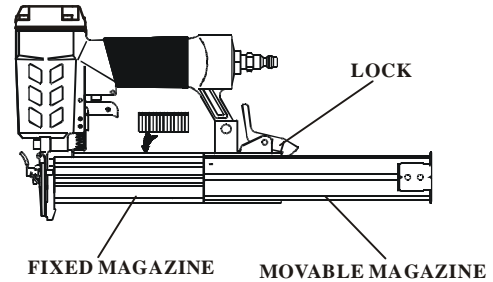

Figure 3
1. Depress the LOCK(DB011) to release the MOVABLE MAGAZINE (HM033) and pull the magazine out fully as shown in Figure 3.